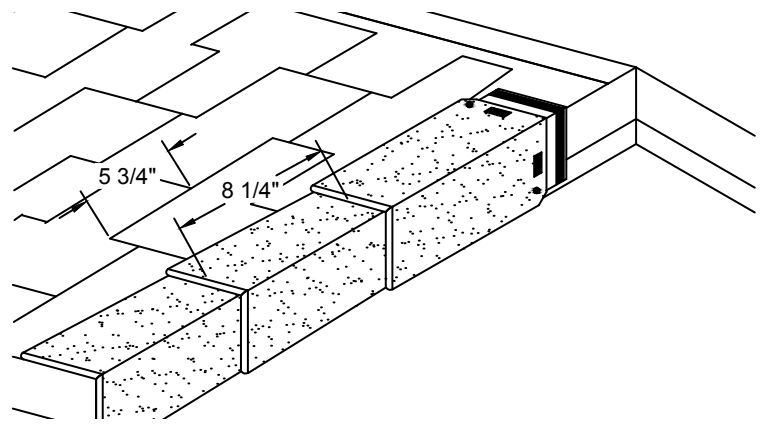

Figure 27 - Installation of EZ-Ridge® Shingles on Rake Edges of the Roof
3. Note: Installation with exposed nails may affect the aesthetic appeal of EZ-Ridge® shingles. (See **Figure 27**)